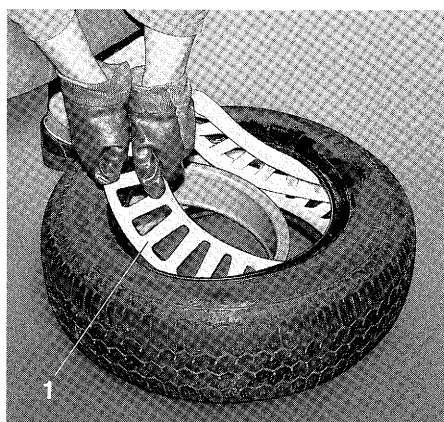

Fig.58
-  Insert both bracing rings and inner ring according to Fig. 58 into the tyre.